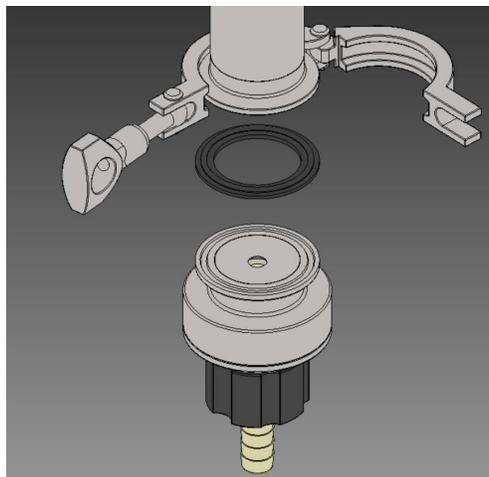

FIGURE D. 1. - SAMPLE VALVE INSTALLATION
1. Orient valve outlet in a downward direction (see Figure D.1.)